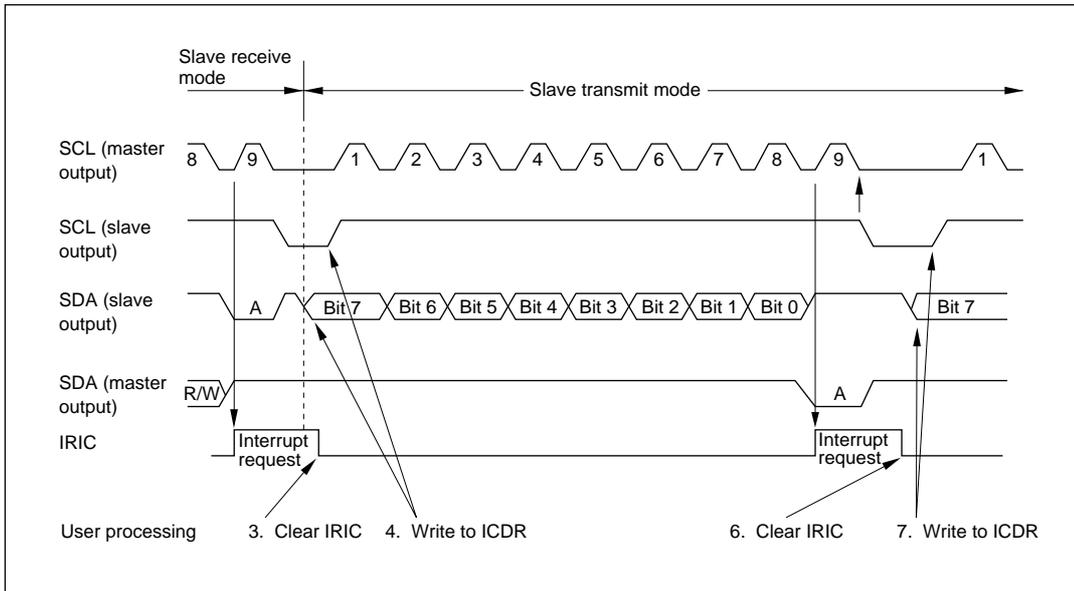

Figure 13-8 Timing in Slave Transmit Mode
4. Write data in **ICDR**. The slave device outputs the written data serially in step with the clock output by the master device, with the timing shown in figure 13-8.